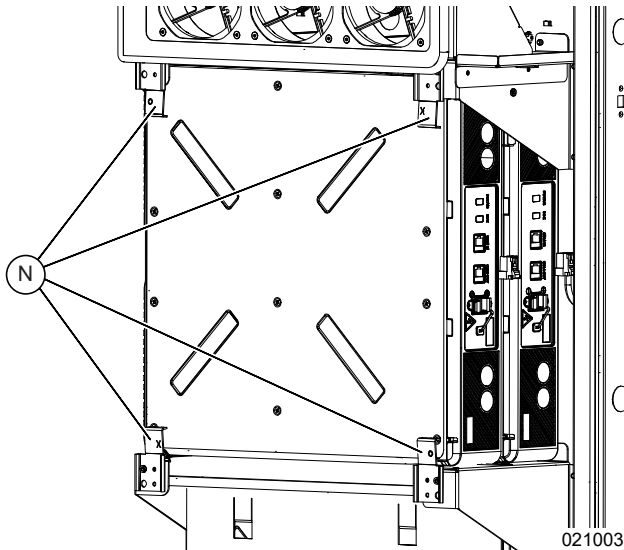

Figure 4-21. Installing Retention Clips (1 of 3)
See Figure 4-21. All front battery modules must be secured with retention clips (N).